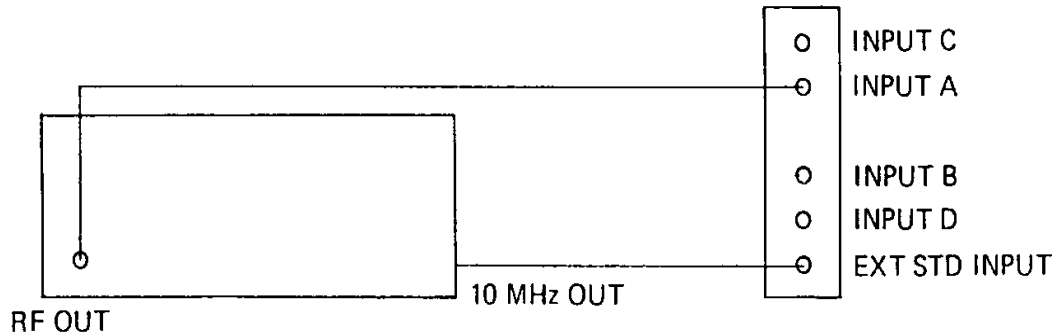

Figure 4-6, Time Interval A-B Test Configuration
4.1.9.0.2 Connect the 2251A to the signal generator as shown in **Figure 4-6**. Set the signal generator to 10 MHz, 0 dBm.